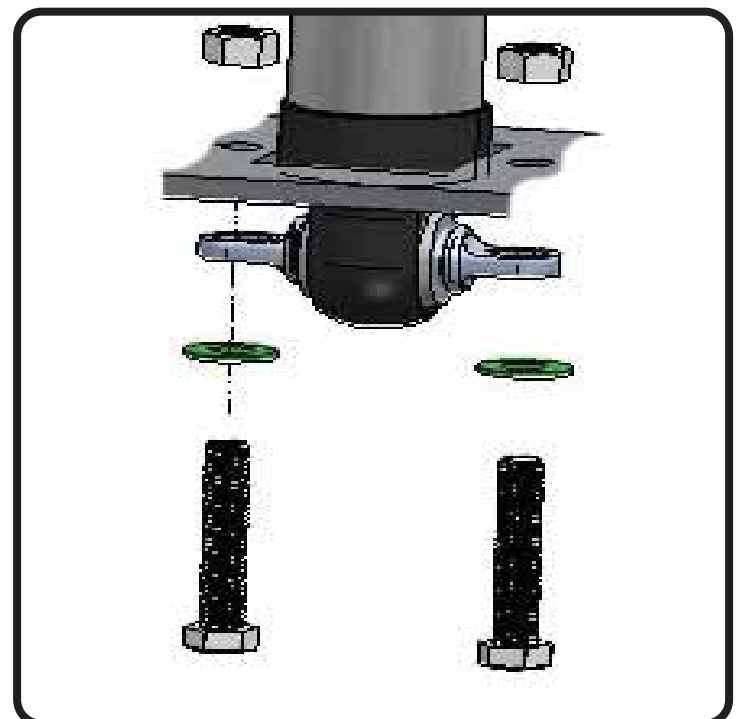

Figure 2
**4.** Attach the Trunnion to the OEM Control arm using the OEM hardware (Figure 2). It may be necessary to rotate the Trunnion to get it in the correct position. This can be done by sticking a screwdriver in one of the slots and spinning the trunnion in the shock bushing.